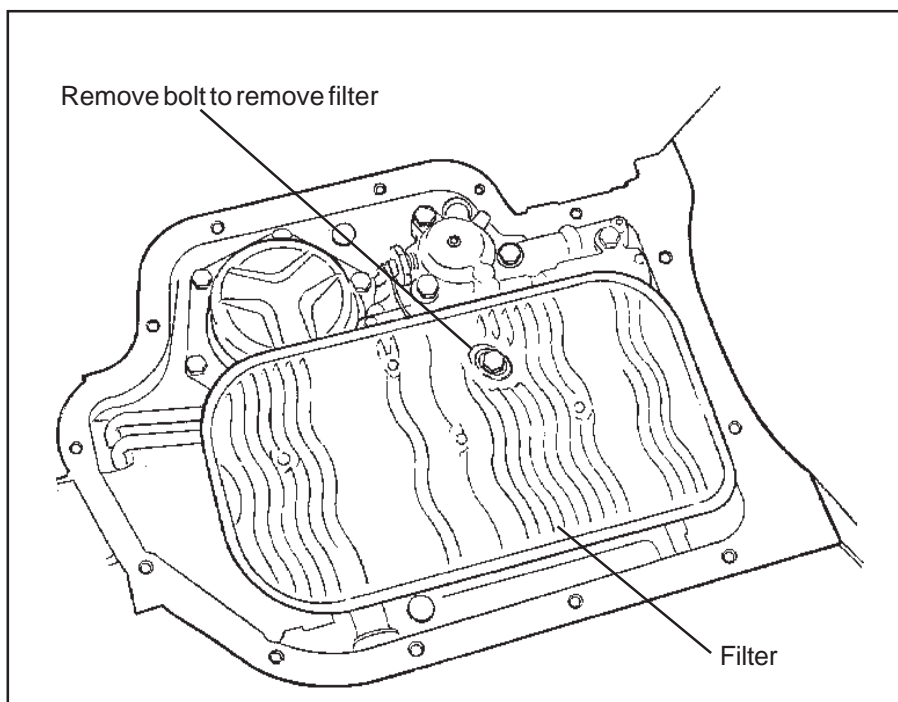

Figure 3
**STEP 2.** Oil filter removal (See Fig. 3): Remove the shoulder bolt holding the filter then pull the filter straight down. Some models also use a spacer between the filter and valve body. Watch out for oil splatter. If the oil pick-up tube did not come out with the filter, pull it out. Remove the O-ring from the bore in the case if it did not come out with the oil pick-up tube. Be careful not to scratch the case bore when removing the O-ring.